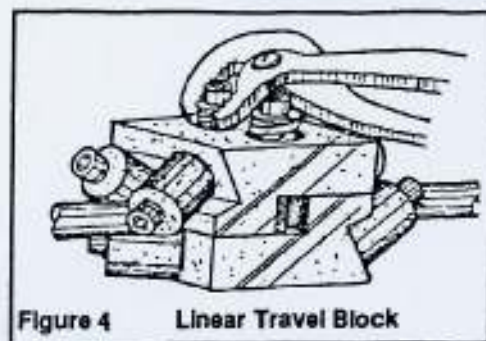

Figure 4
- 7) If the motor runs but the door does not move, the C-2102 travel block (Figure 4) may not have sufficient tension. See page 9 for Final Operating Adjustments.